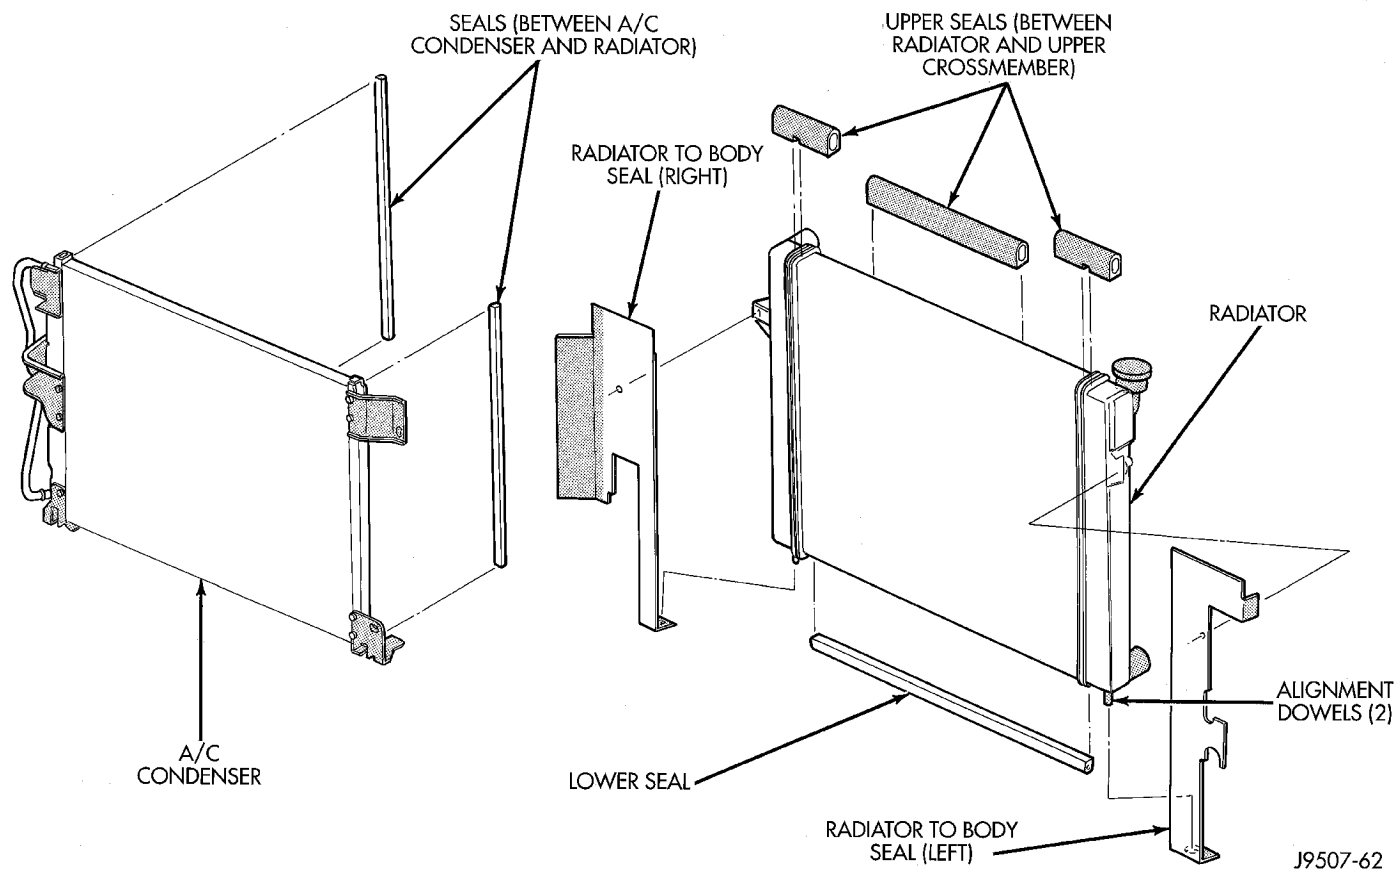
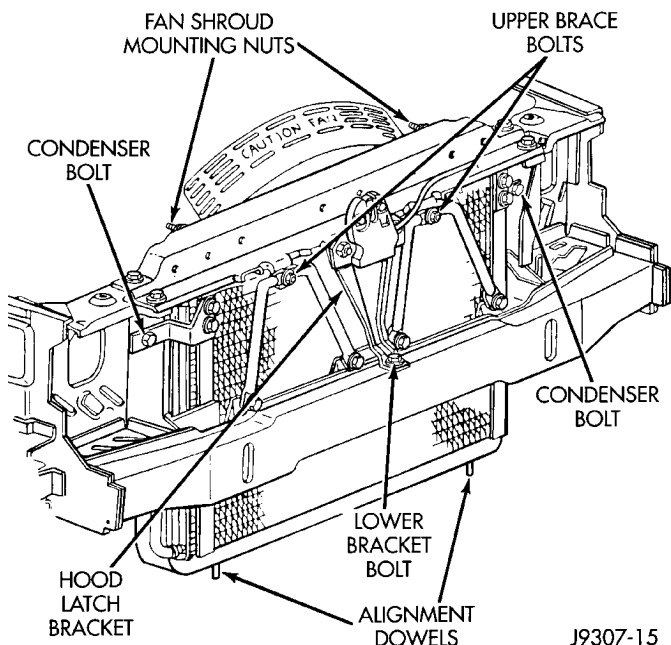
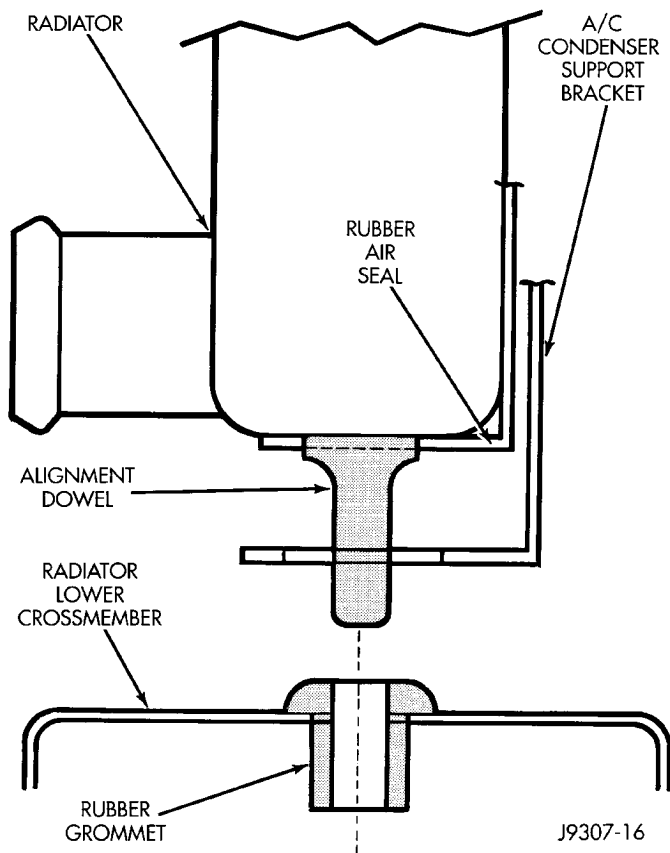

Fig. 45 Air Seals—Typical
Fig. 48 Radiator and A/C Condenser Mounting
Fig. 50 Radiator Alignment Dowels
CAUTION: When removing the radiator or A/C condenser for any reason, note the location of all radiator-to-body and radiator-to-A/C condenser rubber air seals (Fig. 45). These are used at the top, bottom and sides of the radiator and A/C condenser. To prevent overheating, these seals must be installed to their original positions.
(8) Remove the two fan shroud-to-upper radiator crossmember mounting nuts (Fig. 48).
(13) Remove the grill. Refer to group 23, Body.
(14) Remove the upper brace bolt from each of the two radiator braces (Fig. 48).
(16) Working through grille opening, remove the lower bracket bolt securing lower part of hood latch support bracket to lower frame crossmember (Fig. 48).
(17) Remove the remaining four bolts securing the radiator upper crossmember to the body. Do not remove the hood latch or hood latch cable from the
(18) Equipped with air conditioning: Remove the two A/C condenser-to-radiator mounting bolts (Fig. 48). These two bolts are also used to retain the side mounted rubber air seals (Fig. 45). These seals are compressed between the A/C condenser and the radiator. The lower part of the air seals are compressed between the radiator and the A/C condenser mounting brackets (Fig. 50).
(19) Not equipped with air conditioning: Remove the two bolts retaining the side mounted rubber air seals (Fig. 45) to the radiator. The lower part of the air seals are compressed between the radiator and the radiator lower crossmember.
CAUTION: Note the location of all rubber air seals (Fig. 45). To prevent overheating, they must be installed back to their original positions.
(22) 4.0L Engine Only: Remove the lower radiator hose at the water pump end.
(23) To gain access to lower radiator hose clamp at radiator, gently lift the radiator a slight amount. Remove hose clamp and hose.
(24) The lower part of radiator is equipped with two alignment dowel pins (Fig. 48) (Fig. 50). They are located on the bottom of radiator tank and fit
CAUTION: Before installing the radiator or A/C condenser, be sure the radiator-to-body and radiator-to-A/C condenser rubber air seals (Fig. 45) are properly fastened to their original positions. These are used at the top, bottom and sides of the radiator and A/C condenser. To prevent overheating, these seals must be installed to their original positions.
(1) Equipped with air conditioning: Gently lower the radiator into the vehicle. Guide the two radiator alignment dowels through the holes in the rubber air seals first and then through the A/C support brackets (Fig. 50). Continue to guide the alignment dowels into the rubber grommets located in lower radiator crossmember (Fig. 50). The holes in the L-shaped brackets (located on bottom of A/C condenser) must be positioned between bottom of rubber air seals and top of rubber grommets.
(2) Not equipped with air conditioning: Gently lower the radiator into the vehicle. Guide the two radiator alignment dowels through the holes in the rubber air seals. Continue to guide the alignment dowels into the rubber grommets located in lower radiator crossmember.
(3) Connect the lower radiator hose and hose clamp to radiator.
(4) 4.0L Engine: Connect the lower radiator hose at the water pump.
(5) Connect the upper radiator hose at the radiator.
(6) Equipped with air conditioning: Install the two A/C condenser- to-radiator mounting bolts (Fig. 48). These two bolts are also used to retain the rubber air seal (Fig. 45) to the sides of radiator.
(7) Not equipped with A/C: Install the two bolts retaining the rubber air seal (Fig. 45) to sides of radiator.
(8) Install coolant reserve/overflow tank hose at radiator.
(9) If radiator-to-upper crossmember rubber isolators were removed from radiator, install them. Tighten mounting nuts to 3 N·m (24-36 in. lbs.) torque. Position upper radiator crossmember to radiator.
(10) Working through grill opening, install and tighten the hood latch support bracket-to-lower frame crossmember bolt (Fig. 48).
(13) Install the upper bolt to each radiator brace (Fig. 48).
(14) Install the grill. Refer to group 23, Body.
(19) Install the two nuts securing the fan shroud to the upper radiator crossmember (Fig. 48).